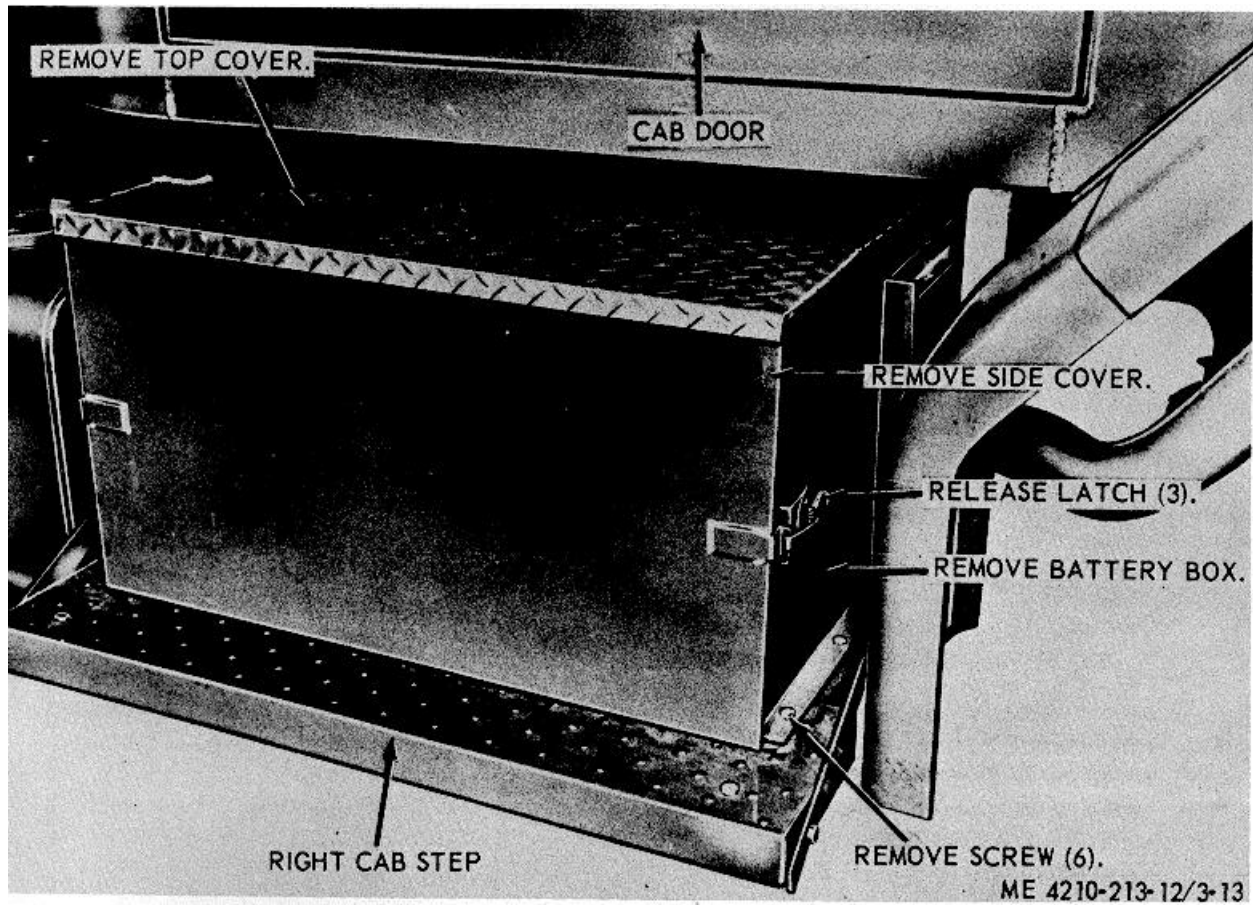

Figure 3-13. Battery box, removal and installation.
a. Removal. Refer to figure 3-13, and remove the battery box from the truck chassis.
e. Installation. Refer to figure 3-13 and install the battery box on the truck chassis.